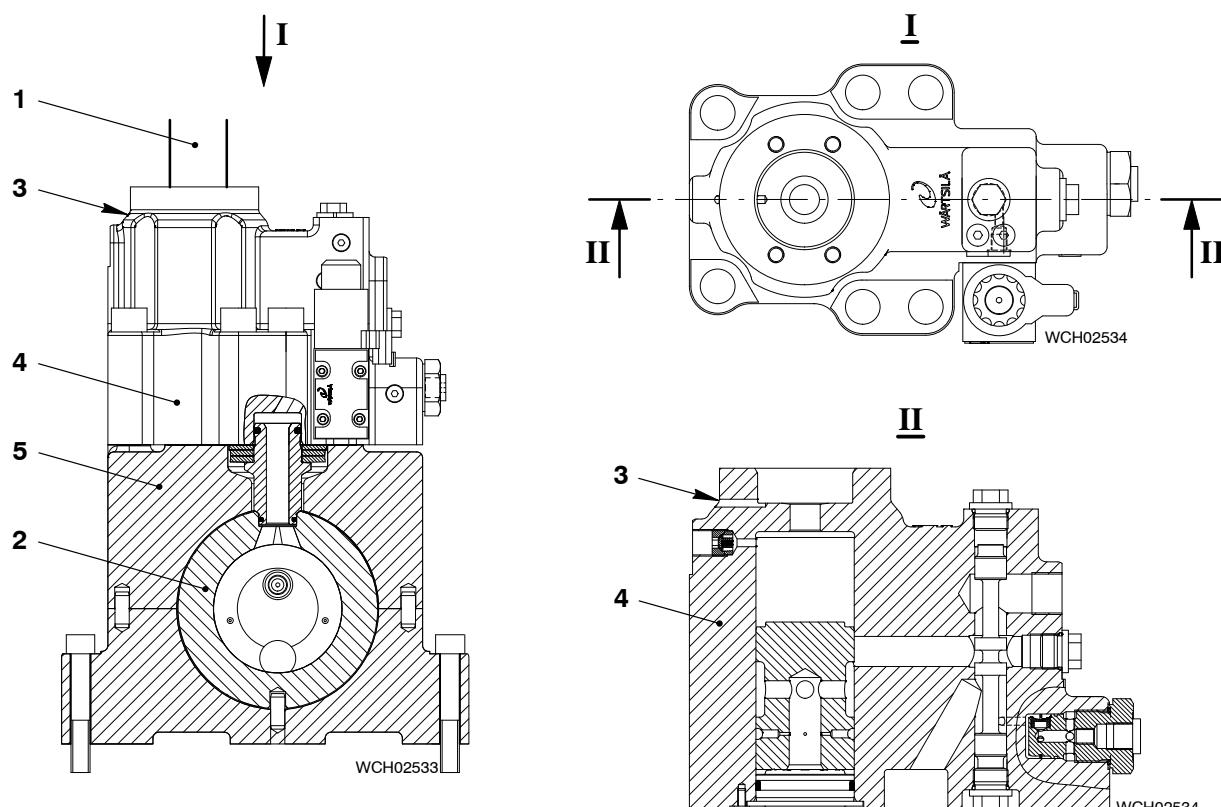

Fig. 4: Leakage Inspection Point – VCU
If oil flows from the leakage inspection point (3, Fig. 4) in the VCU, the related hydraulic pipe (1) has a leak (see also 0520-1 Operation with Exhaust Valve Control Unit Cut Out).
Note: Each of the two HP servo oil pipes (2, Fig. 4) has a screw plug (5, Fig. 5) at the leakage inspection points.